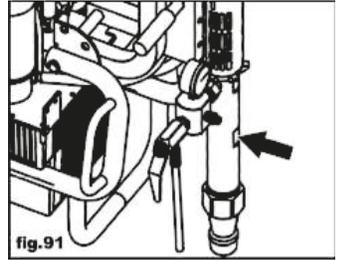

fig.91
-Add about 30 millilitres of light household oil or a pump storage product into each inlet (fig.91)